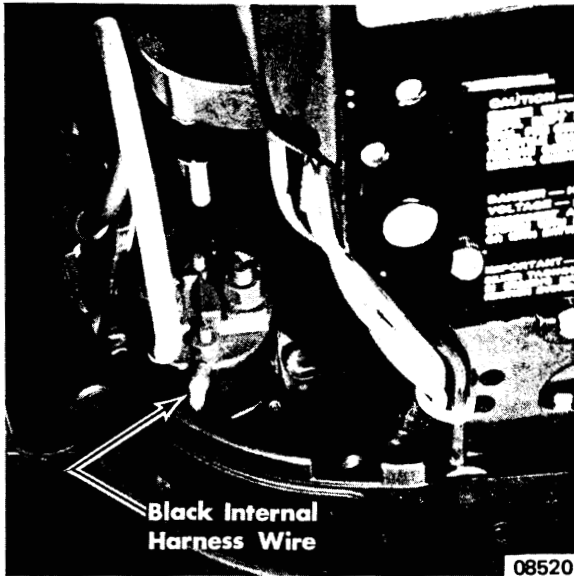

Figure 2. Wire Location
- (1) Serial No. 3866326 thru 3869010 - Small black internal harness wire to starter solenoid must be located as shown in Figure 2.